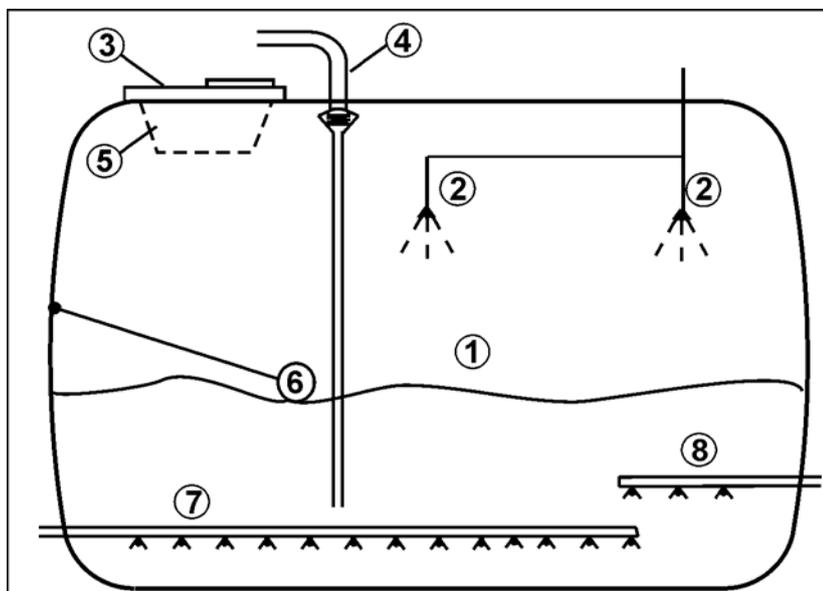

Fig. 44
1. Actuate tractor control unit *blue* until the drawbar is at the zero setting (Fig. 44/1).